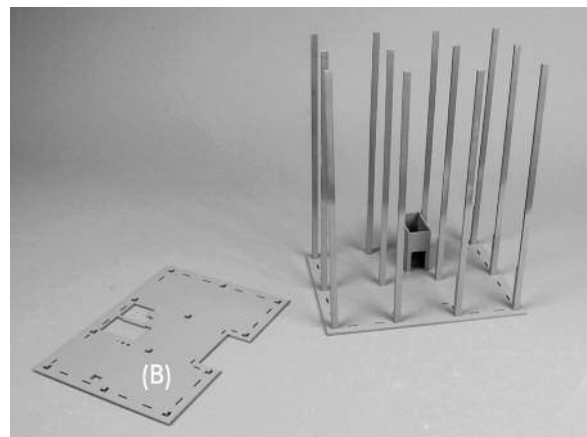

Figure 6
Prime and paint the lower part of the assembly as well as both sides of part (B). See Figure 6.